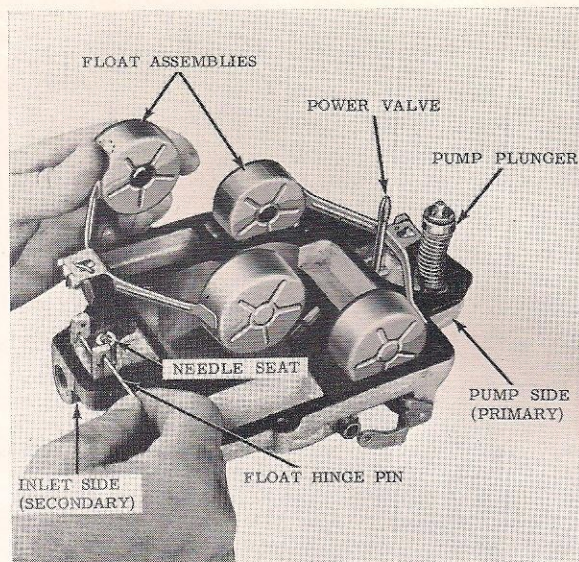

Figure 7-28
9. Assemble float needle to float assembly. Then install float, needle, and hinge pin on fuel inlet side of carburetor. (Figure 7-28.)